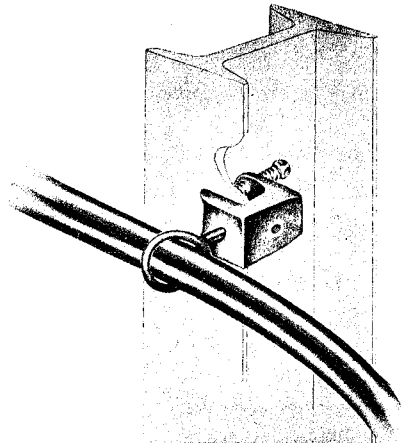

Fig. 3 — B Insulator Support
3.04 B Insulator Support (Fig. 3)